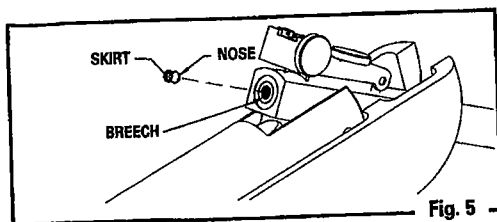

Fig. 5
- With the barrel in the open position, after it has been cocked, place one pellet, nose forward, into the breech (Fig. 5). Make sure that the skirt of the pellet is flush with face of breech.